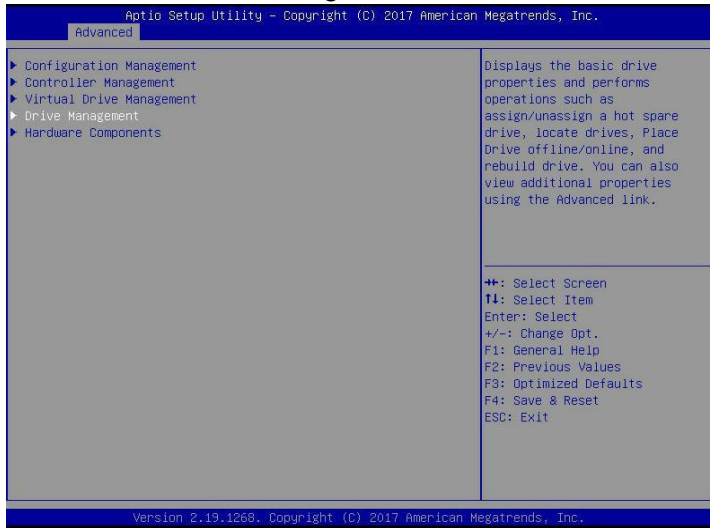

Figure 6-77
- a) As shown in Figure 6-77, select Drive Management on the RAID card configuration interface and press Enter.
✧ Figure 6-77 RAID card configuration interface